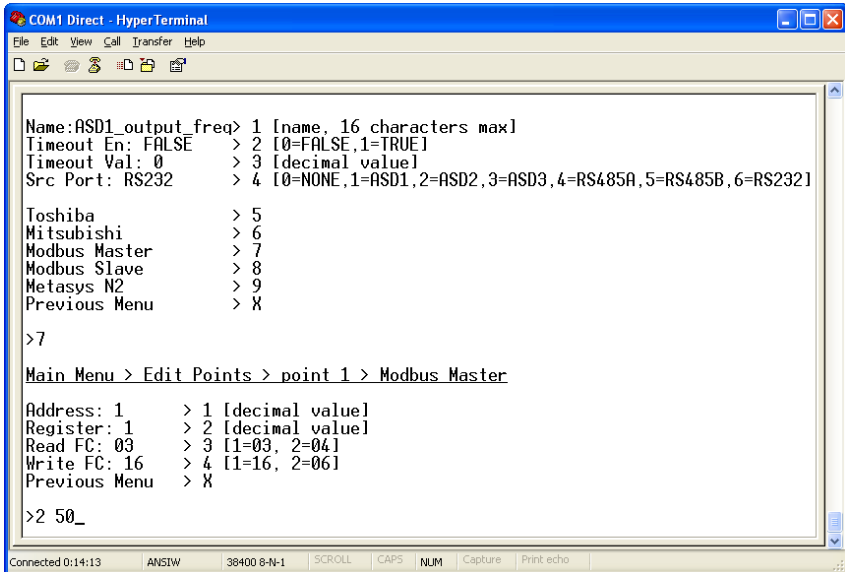

Figure 16: Edit Modbus Master Attributes
- **Edit Register:** Menu selection 2 allows you to edit the Modbus holding register or input register that this point will access. The type of register accessed (holding or input) will be determined on the basis of the “Read FC” setting (see below). Figure 16 shows an example of how to change the current setting of register 1 to register 50.